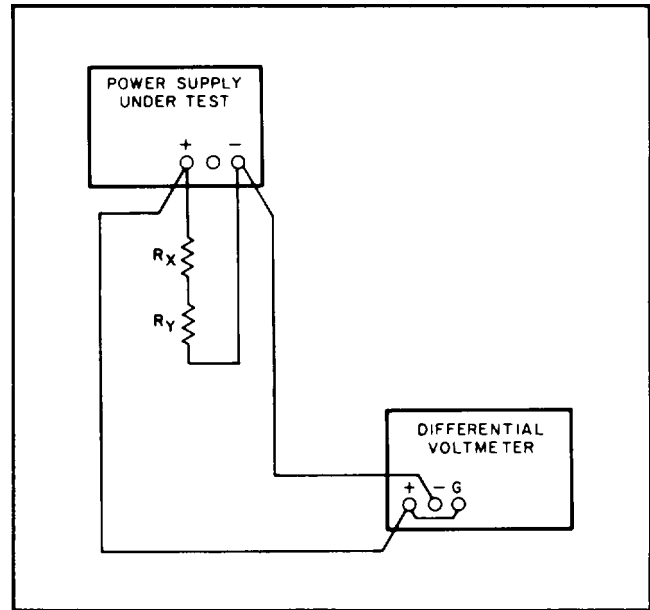

Figure 5-5. Load Regulation, Test Setup
- Connect test setup as shown in Figure 5-5.
- Connect test setup shown in Figure 5-5.
- a. Connect test setup shown in Figure 5-5.